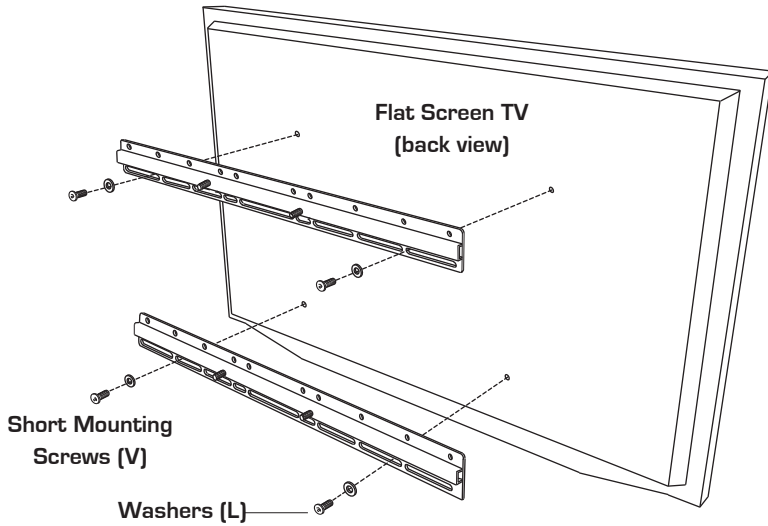

Figure 5
Find mounting screws that came with your flat screen TV. If screws are not available, find the **Short Phillips Head Mounting Screws (V)** provided with Vista that thread cleanly into the mounting holes in the back of your TV. The following thread sizes are included: **M5, M6, M8, 10-32 & 1/4-28**. Attach both **Horizontal Mounting Bar (S)** to TV as shown (Figure 5) using **Washers (L)** and Phillips driver. **Note:** If back of TV has a curved surface, or, if bars do not sit flat, use **Spacers (T or U)** and **Long Mounting Screws (V)** provided. Make sure bars are centered left to right! Button hooks should be on top and threaded studs on bottom. **Fully tighten bars to TV!**